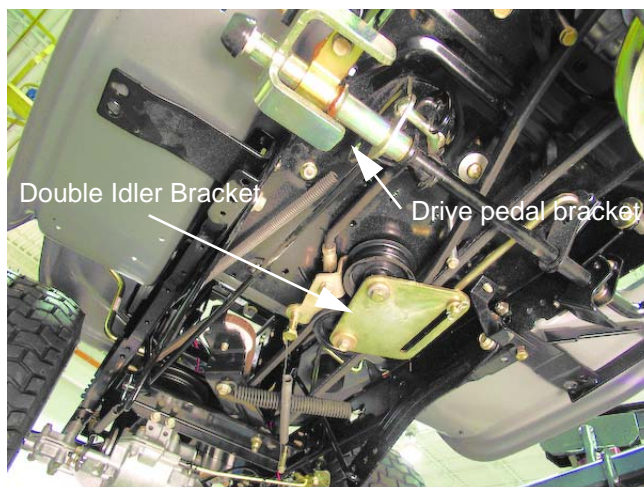

Figure 5.2
- The drive control pedal tensions the front drive belt using a pivoting double idler bracket. See Figure 5.2.